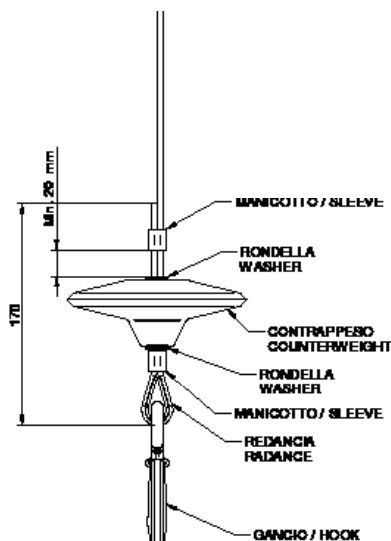

Fig. 4.6
6.1) Fig.4.6 With aluminium press sleeves, one lower and one upper (as on the original machine), if a suitable press or equipment is available.